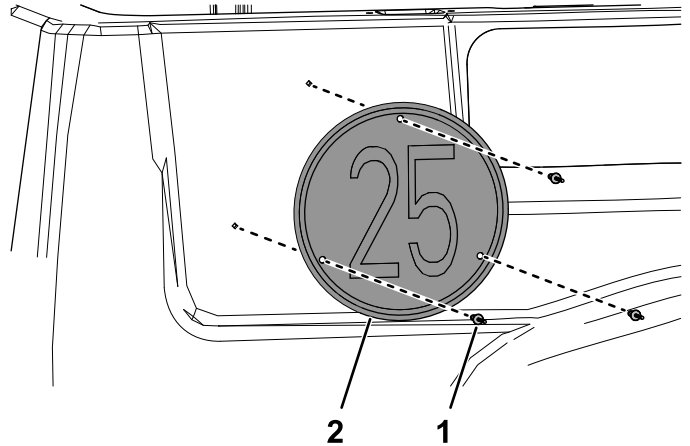

Figure 16
4. Install the speed plate to the cargo bed side using 3 pop rivets (3/16 x 15/16 inch) as shown in Figure 16.